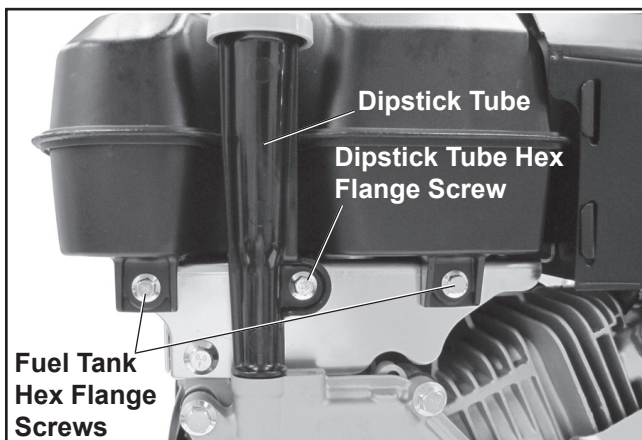

Figure 15. Remove Dipstick Tube.
2. Remove the hex flange screw securing the dipstick tube. Remove the tube. See Figure 15.
3. Remove the hex flange screws securing the fuel tank to the control assembly. See Figures 15 and 16.